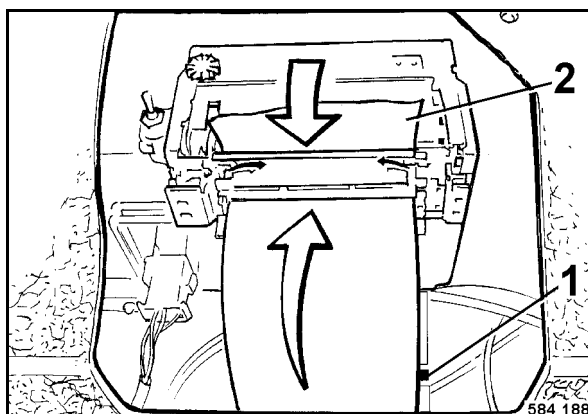

Fig. 103
- Remove shaft 1 (Fig. 103) with the rest of the paper roll (2).